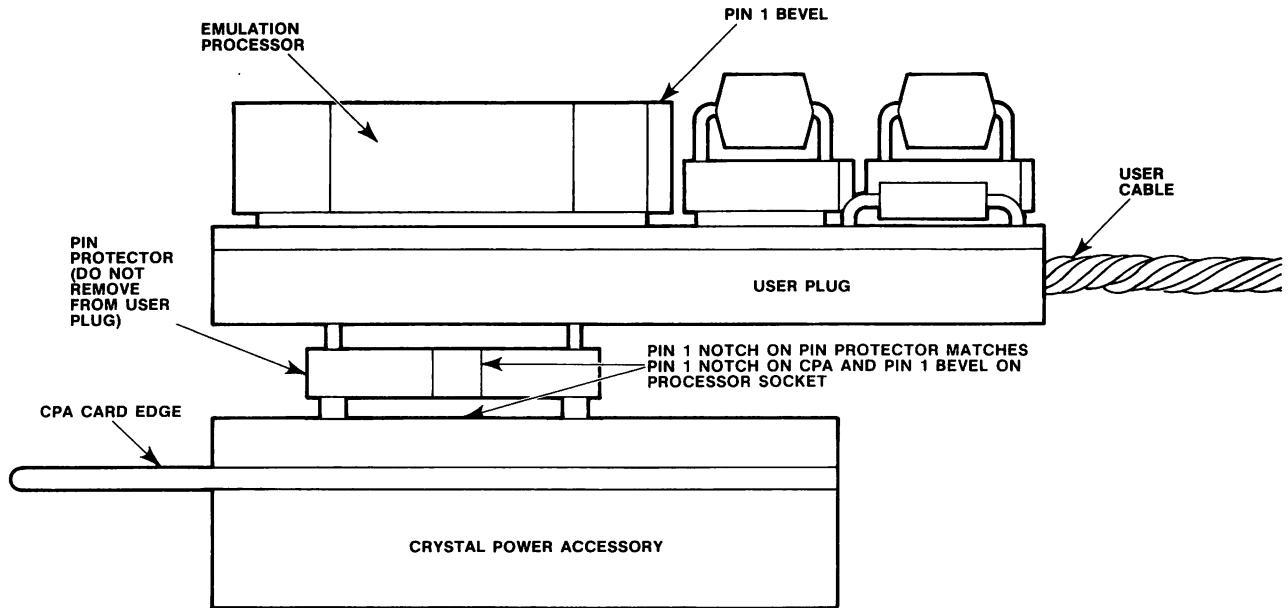

Figure A-5. User Plug Assembly, Side View
2. Leave pin protector on user plug (figure A-5).
2. Remove the Crystal Power Accessory from the end of the user cable (see CPA installation procedure earlier in this chapter). Leave the pin protector attached (figure A-5).
3. Insert the user plug in the 8051 socket on the user system, aligning pin 1 on the socket with the pin 1 indicator on the user plug (figure A-5).